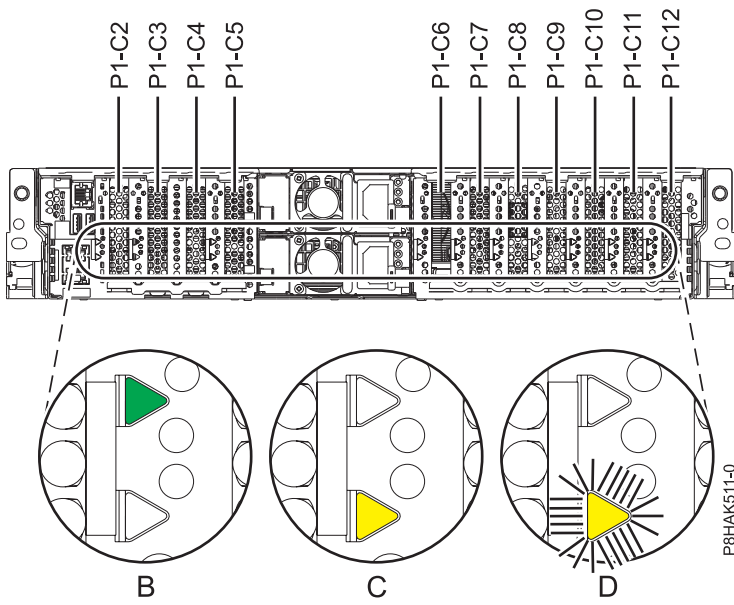

Figure 32. PCIe adapter slot locations and locations of the LEDs in the 5148-21L, 5148-22L, 8247-21L, 8247-22L, 8284-21A, or 8284-22A system
If you are servicing a failed PCIe adapter, look for the flashing amber LED for the failed PCIe adapter that you set to flash in the step to identify the failed part. See Figure 32 on page 50 that shows the state of the LEDs. Note that the amber LED for the failed PCIe adapter is **Flashing**, as shown in (D) in Figure 32 on page 50.
Attention: If the PCIe adapter is operating correctly then the Activity LED is **ON** (green) and the Error amber LED is **OFF**, as shown in (B) in Figure 32 on page 50. Do not attempt to remove the working PCIe adapter.